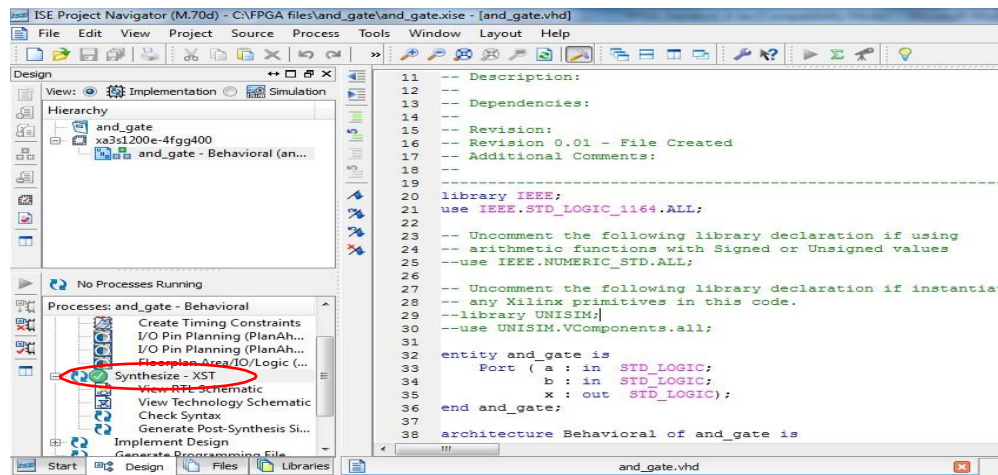

Figure 10: Synthesize the Design
- To synthesize the design using Synthesis Tool, double click on the **Synthesize Design** option in the **Processes window**. (Figure 10)